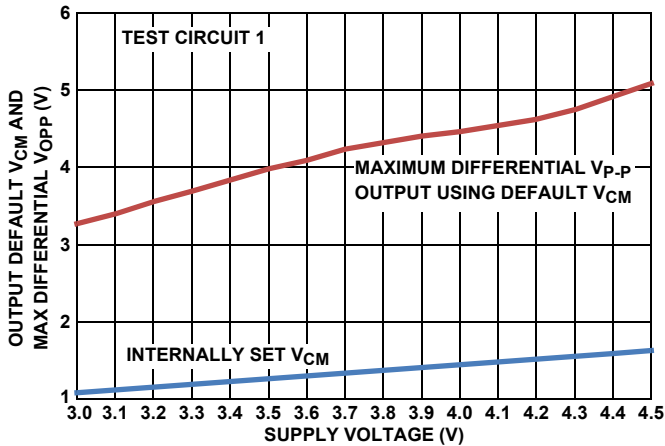
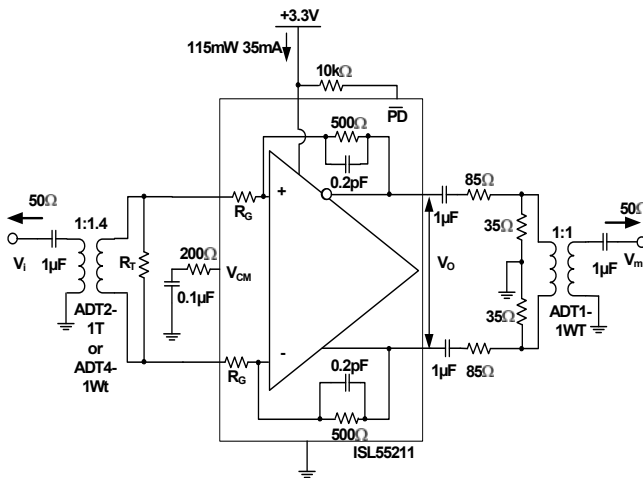
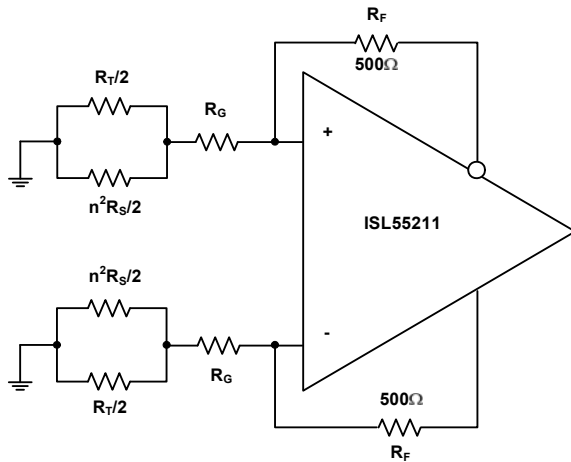
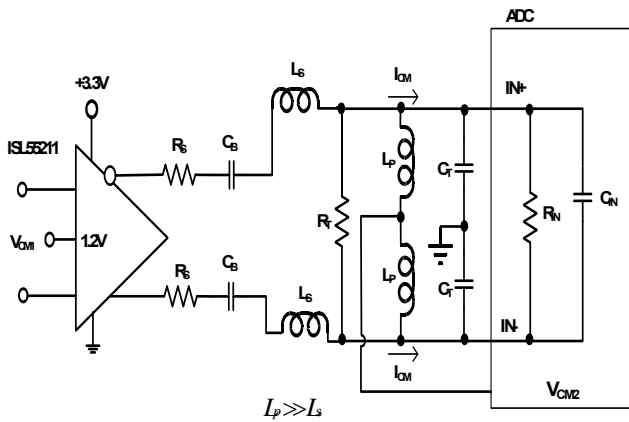

FIGURE 27. DEFAULT V_{CM} AND MAX V_{OPP} vs SUPPLY VOLTAGE
FIGURE 29. TEST CIRCUIT 1
FIGURE 35. NOISE GAIN MODEL FOR THE TRANSFORMER COUPLED INPUT CIRCUIT OF FIGURE 29
FIGURE 37. AC-COUPLED, HIGHER FREQUENCY RLC INTERSTAGE FILTER DESIGN
Test Circuit 1 of Figure 29 forms a starting point for many of the characterization curves for the ISL55211. Since most lab sources and measurement devices are single-ended, this circuit converts to differential at the input through a wideband transformer and would also be a typical application circuit coming from a single-ended source. Assuming the source is a 50 Ω impedance, the internal R_G resistors and external R_T are set to provide both the input termination and the gain. Since the inverting summing nodes act as virtual ground points for AC signal analysis, the total termination impedance across the input transformer secondary will be $(2 * R_G) || R_T$. Setting this equal to $n^2 * R_S$ will give a matched input impedance inside the bandwidth of the transformer (where "n" is the turns ratio). The amplifier gain is fixed by the selected input R_G element and the internal 500 Ω feedback resistors. While the ISL55211 is internally a Voltage Feedback Design (VFA) to give the lowest possible noise, internal compensation caps hold the bandwidth over gain setting approximately constant at 1.4GHz. For wider small signal bandwidth at lower gains, consider the ISL55210, which provides >2.2GHz at a gain of 12dB.
Working with a transformer coupled input as shown in Figure 29, or with two DC blocking caps from a differential source, means the output common mode voltage set by either the default internal V_{CM} setting, or a voltage applied to the V_{CM} control pin, will also appear as the input common mode voltage. This provides a very easy way to control the ISL55211 I/O common mode operating voltages for an AC-coupled signal path. The internal common mode loop holds the output pins to V_{CM} and, since there is no DC path for an I_{CM} current back towards the input in Figure 29, that V_{CM} setting will also appear as the input common mode voltage. It is useful, for this reason, to leave any input transformer secondary centertap unconnected. The internally set V_{CM} voltage is referenced from the negative supply pin. With a single 3.3V supply, it is very close to 1.2V but will change with total supply voltage across the device as shown in Figure 27.
Most of the characterization curves starting with Figure 29 then get different gains by changing the connections to the two pairs of input R_G connections, as shown on the pin configuration drawing on page 2. Two input turns ratios are intended for Test Circuit 1; either a 1:1.4 turns ratio (ohms ratio of 2) or a 1:2 turns ratio (ohm ratio of 4). The specific transformers shown in Figure 29 are representative of broadband RF transformers but alternate devices and manufacturers of these turns ratio devices are certainly applicable. The output side of this test circuit presents a differential 200Ω load while converting the differential to single-ended through a resistive attenuator and a 1:1 transformer. This inserts approximately a 17dB insertion loss that is removed to report the characteristic curves. For load tests below the 200Ω shown in Figure 29, a simple added shunt resistor is placed across the output pins. For loads > 200Ω, the series and shunt load R's are adjusted to show that total load (including the 50Ω measurement load reflected through the 1:1 output measurement port transformer) and provide an apparent 50Ω differential source to that transformer. This output side transformer is for measurement purposes only and is not necessary for final applications circuits. There are output interface designs that do benefit from a transformer as part of the signal path as shown in Figure 1. In that case, the 1:1.4 output side transformer becomes part of a filter design and recovers the filter insertion loss from the amplifier output pins to the ADC inputs.
The characterization circuit of Figure 29 shows one possible input stage interface that offers several advantages. Where AC coupling is adequate, the circuit of Figure 29 simplifies the input common mode voltage control. If the source coming into this stage is single-ended, the input transformer provides a zero power conversion to differential. The two gain resistors (R_G in Figure 29) provide both a portion of the input termination impedance and the gain element for the amplifier. For 50Ω systems, these R_G resistors are too high with the turns ratios shown in Figure 29 to provide the full match and an external R_T resistor is required. This R_T element goes away at the highest gain setting using a 1:2 input turns ratio transformer.
This input interface also simplifies the input common mode control. The V_{CM} pin controls the output common mode voltage. In most DC-coupled FDA applications, the input common mode voltage is determined by both this output common mode and the source signal. In a configuration like Figure 29, there is no path for a common mode current to flow from output to input, so the input common mode voltage equals the output. A similar effect could be achieved with just two blocking caps on the two R_G resistors. A DC-coupled, single to differential, configuration will also have a common mode input that is moving with the input signal. Converting to just a differential signal at the amplifier, as in Figure 29, removes any input signal related artifacts from the input common mode making the ISL55211 behave as a differential only VFA amplifier. There is only a very small differential error signal at the inputs set by the loop gain, as in a
of 1.3V for instance, then $1.3V + 0.9V + 1.5V = 3.7V$ will give an unclipped 3.6V_{P,P} output capability. The $V_{P,P}$ reported in Figure 27 is an asymmetrically clipped maximum swing. Going 10% above this 3.7V target to 4.1V will be within the recommended operating range and give some tolerancing headroom that would also suggest the V_{CM} voltage be moved up to approximately 1.5V, which coincides with the default output V_{CM} from Figure 27. Operating at +4.1V single supply in a Figure 29 type configuration will give the maximum linear differential output swing of 3.6V_{P,P}.
The differential inputs internal to the ISL55211 also have operating range limits relative to the supply voltages. Operating in an AC-coupled circuit like Figure 29 will produce an input common mode voltage equal to the outputs. The inputs can operate with full linearity with this V_{CM} voltage down to 1.1V above the $-V_S$ supply. On the default 1.2V output V_{CM} on +3.3V supplies this gives a 100mV guardband on the input V_{CM} voltages. Overriding the default V_{CM} by applying a control voltage to the V_{CM} pin should be done with care in going towards the negative supply due to this limit. On the + side, the maximum input V_{CM} above the $-V_S$ supply is 2V so there is more room to move the output V_{CM} up than down from the default value.
+85°C maximum operating ambient from Figure 27, we get $4.5V \times 45mA \times 120^\circ C/W = +24^\circ C$ rise above +85°C or approximately +109°C operating T_j maximum - still well below the specified Absolute Maximum operating junction temperature of +135°C.
Adding an input transformer can improve the input referred noise by adding a noiseless voltage gain. Starting from Test Circuit 1 of Figure 29, and assuming the source shows a matched broadband source R_S that will be matched by the input referred parallel combination of $2 * R_G || R_T$, a noise gain analysis circuit can be developed as shown in Figure 35.
Stepping through the 3 gain settings with two input transformers will allow the noise gain to be calculated for the circuit of Figure 35, which is all that is needed in Equation 1 to arrive at an output differential noise (since R_F is fixed at 500 Ω). Doing this gives Table 4.
2. AC-coupled, higher frequency range interstage filter design. This design replaces the R_T resistors in Figure 35 with large valued inductors and implements the filter just using shunt resistors at the end of the RLC filter. In this case, the ADC V_{CM} can be tied to the centerpoint of the bias path inductors (very much like a Bias-T) to provide the common mode voltage and current to the ADC inputs. These bias inductors do limit the low frequency end of the operation where, with $1\mu\text{H}$ values, operation from 10MHz to 200MHz is supported using the approach of Figure 37.